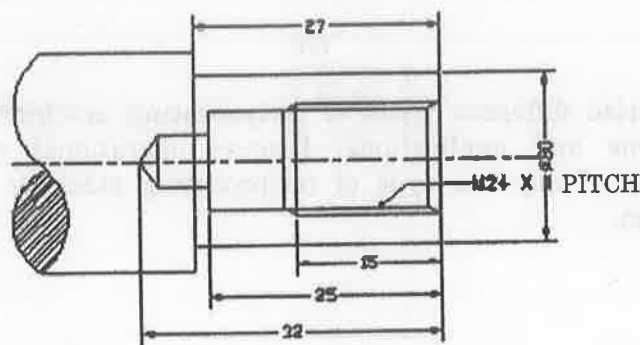

Fig. 1
15. (a) Write a CNC program for following feature shown in Fig. 1 according to following data.